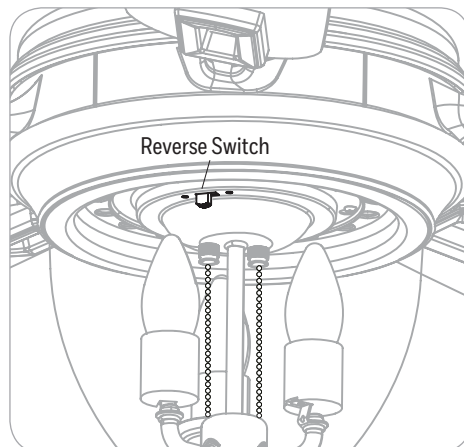

Figure 6.2
2. Use the reverse switch to optimize your fan for seasonal performance. **In warmer weather**, push the reverse switch left which results in downward airflow creating a wind chill effect. **In cooler weather**, push the reverse switch right which results in upward airflow that will help move hot air of the ceiling (Figure 6.2).